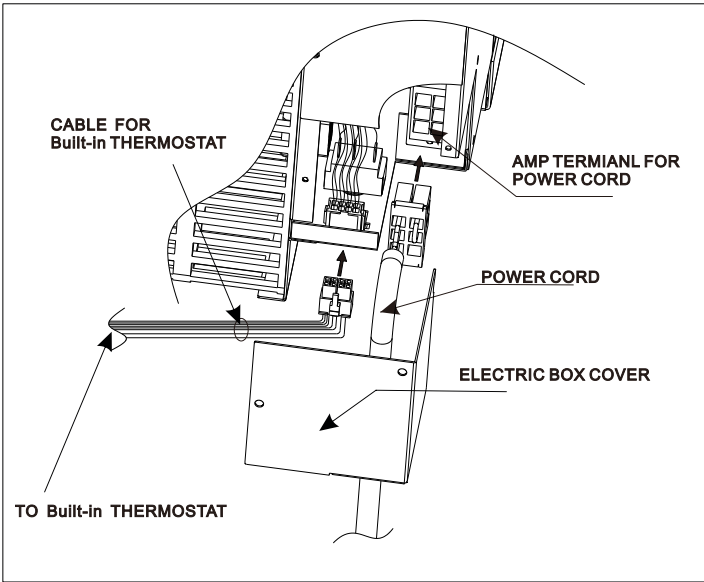

Fig.03: CABLE CONNECTION
- 1.Remove junction box cover by moving three screws. See Fig.03
- 2.Connect accessory power cord to unit. See Fig.03
- 3.Use wire clamp to attach power cord and cable for built-in thermostat to base pan, See Fig.03.
- Connect the built-in thermostat cable with the chassis as Fig.03